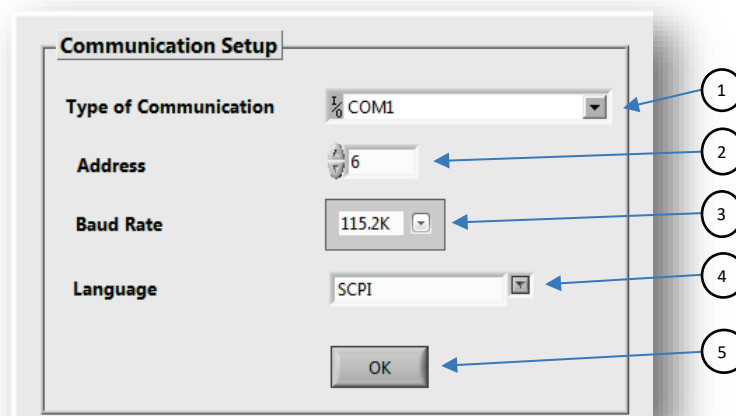

Figure 17
- 2.1 Manual: Select required communication parameters: Type of Communication (1), Address (2), Baud Rate (3) and language (4), refer to Figure 17.